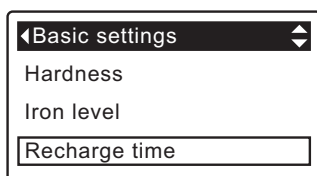

FIG. 44
3. Press the SELECT (O) button to display the Basic settings menu (See Figure 44).
7. Press the SELECT (O) button. The display will go back to the Basic settings menu (Figure 44).